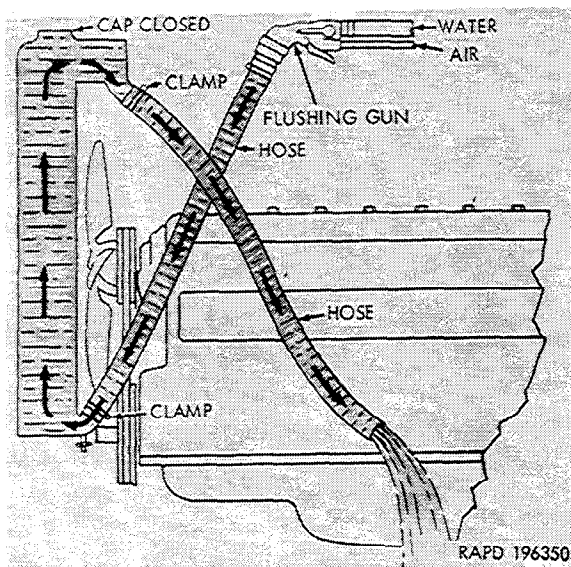

Figure 2-116. Pressure flushing radiator.
(1) To flush the radiator (fig. 2-116) proceed as in (*a*) through (*g*) below.